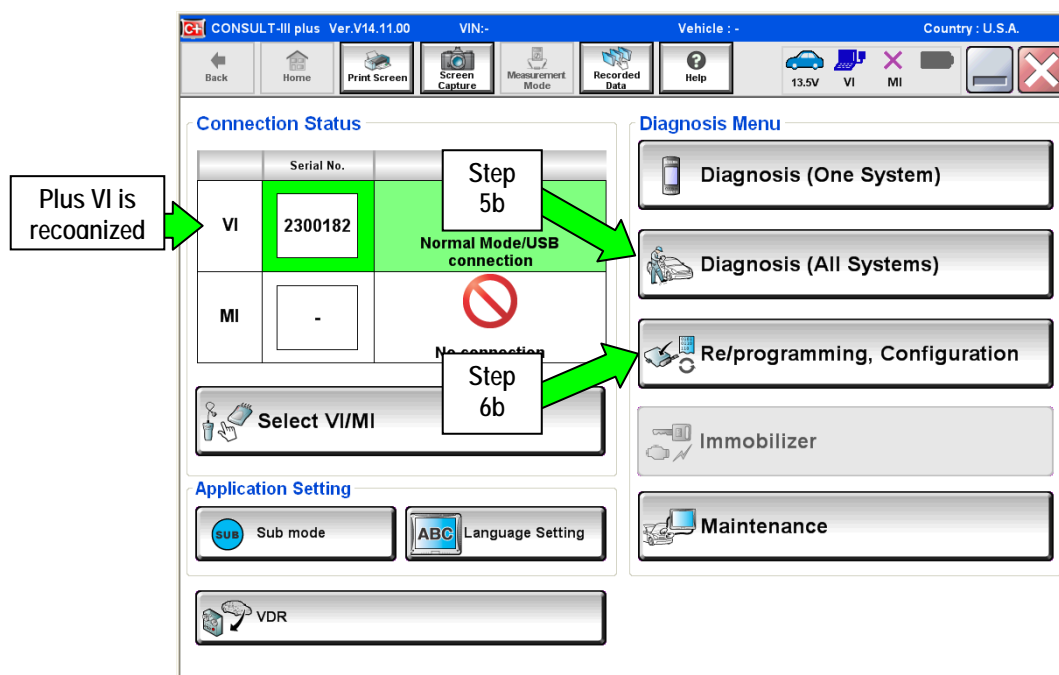

Figure 1
- a. Select the **Home** button and then **YES** to return to the screen shown in Figure 1.